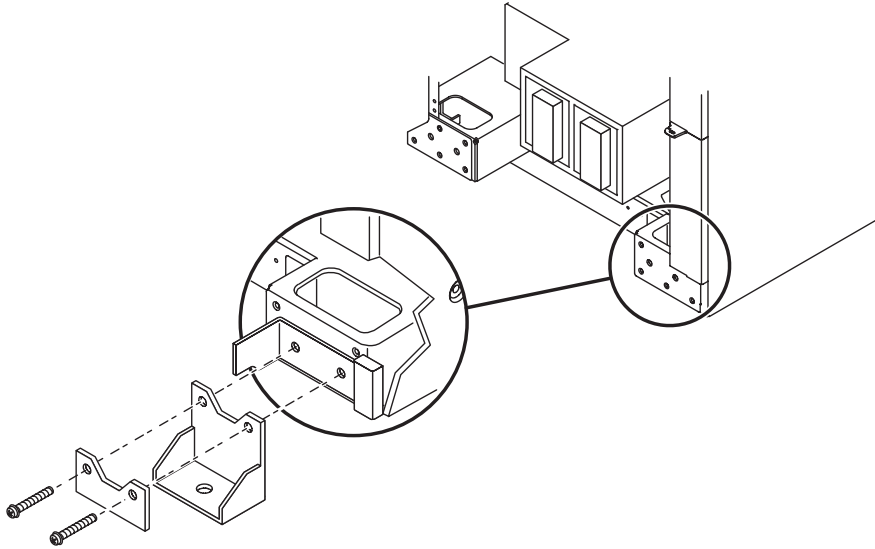

FIGURE 2-6 Bracketing the Sun Fire 6800 System to the floor
3. Secure all four bracket assemblies to the floor (FIGURE 2-6).